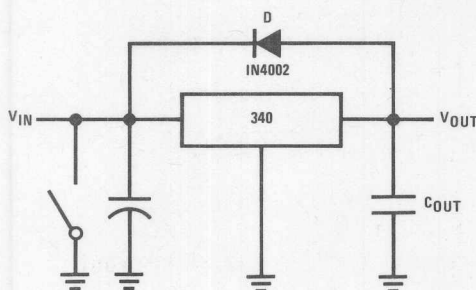

FIGURE 1. Input Short
**Shorting the Regulator Input:** When using large capacitors at the output of these regulators that have  $V_{OUT}$  greater than 6V, a protection diode connected input to output (Figure 1) may be required if the input is shorted to ground. Without the protection diode, an input short will cause the input to rapidly approach ground potential, while the output remains near the initial  $V_{OUT}$  because of the stored charge in the large output capacitor. The capacitor will then discharge through reverse biased emitter-base junction of the pass device, Q16, which breaks down at 6.5V and forward biases the base-collector junction. If the energy released by the capacitor into the emitter-base junction is large enough, the junction and the regulator will be destroyed. The fast diode in Figure 1 will shunt the capacitor's discharge current around the regulator.